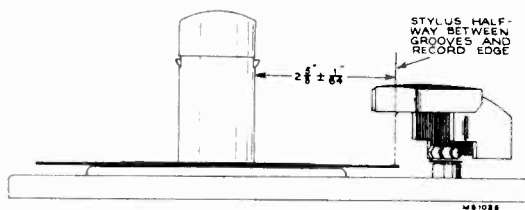

Fig. 36
4. Loosen clamp screw (G) and move pickup arm so the stylus is approximately 2 5/8" from side of centerpost. Tighten clamp screw. (See Figs. 36, 39.)